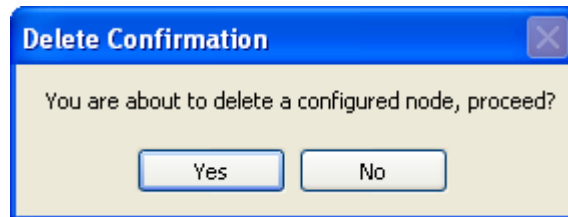

Figure 56 - Delete Confirmation Message Window
2. A message window (Figure 56) appears asking you to confirm the deletion.